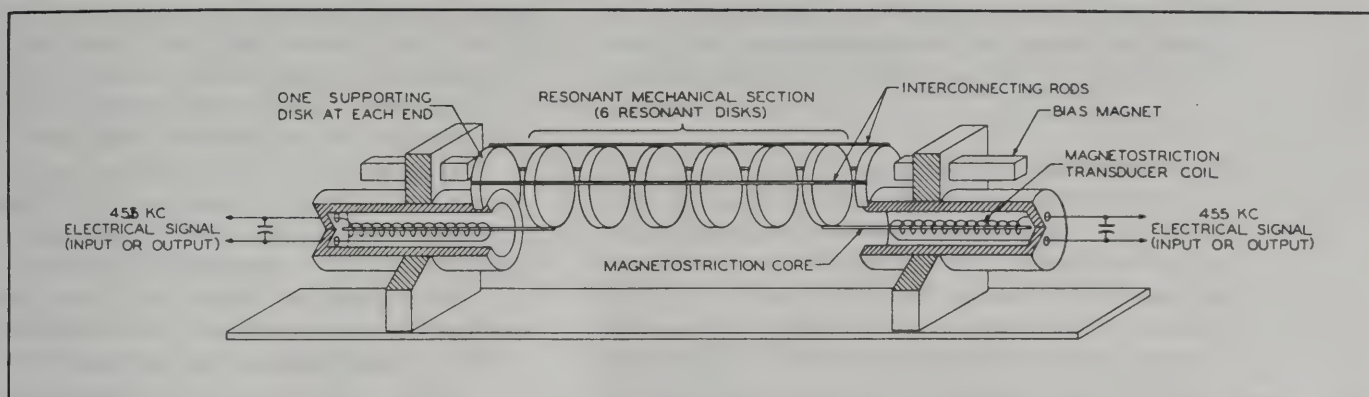

Figure 4-2. A Collins Mechanical Filter, Functional Diagram
**MECHANICAL FILTER.** The functional diagram of the Collins Mechanical Filter is shown in figure 4-2. The mechanical filter uses the principle of magnetostriction to convert electrical energy to mechanical vibration. The magnetostriction transducer input coil is resonated at 455 KC. A nickel wire within this coil vibrates mechanically and transmits this mechanical energy to the first of a series of nickel alloy discs. The mechanical vibration of this first disc is coupled to succeeding